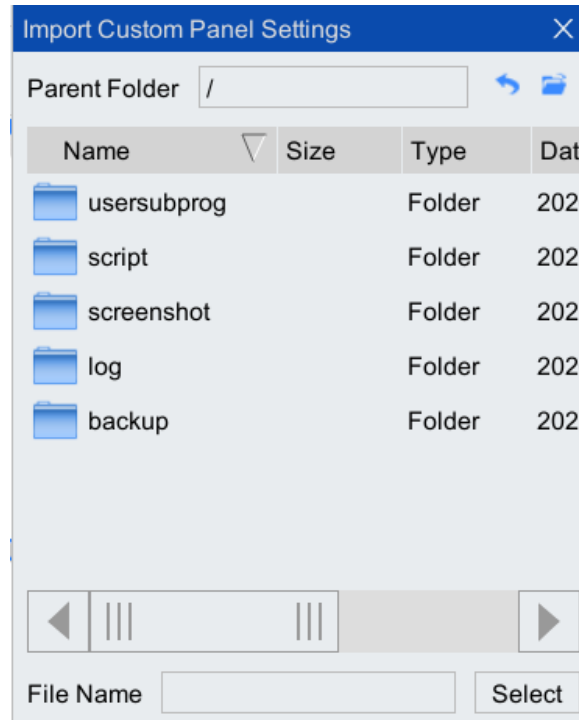

Figure 7-12 [Import custom panel] list box
Step1. On the main interface of the teach pendant, click "File> Restore Backup> Custom Panel" option, and the [Import Custom Panel] list box will pop up as shown in Figure 7-12.